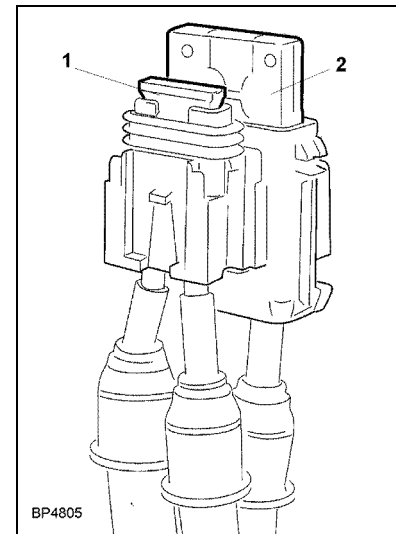
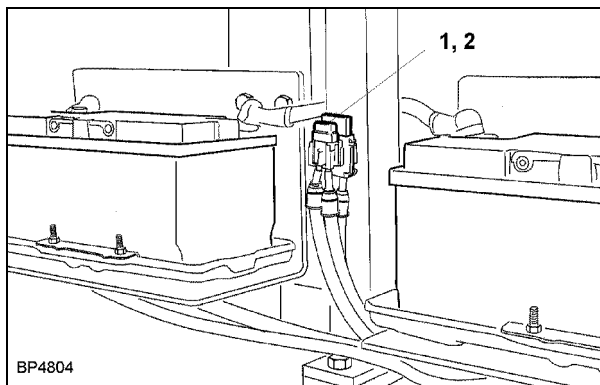

Fig. 3
Fig. 2
A 30A main fuse (1) (Fig. 2/Fig. 3) is located near the starter batteries on all machines with a diesel engine.
In addition to the main fuse (1), a large 80A fuse (2) (Fig. 3) is located at the same position for the preheating system, provided the motor is equipped with such system.